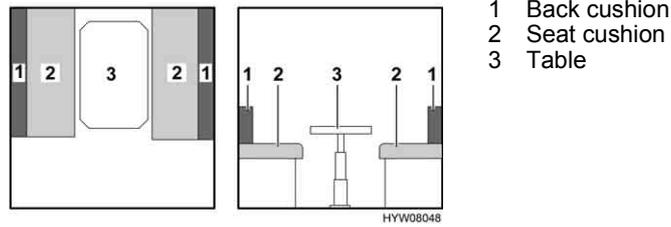

Fig. 115 Prior to conversion
- Convert the table (Fig. 115,3) to a bed foundation (see section 6.10).